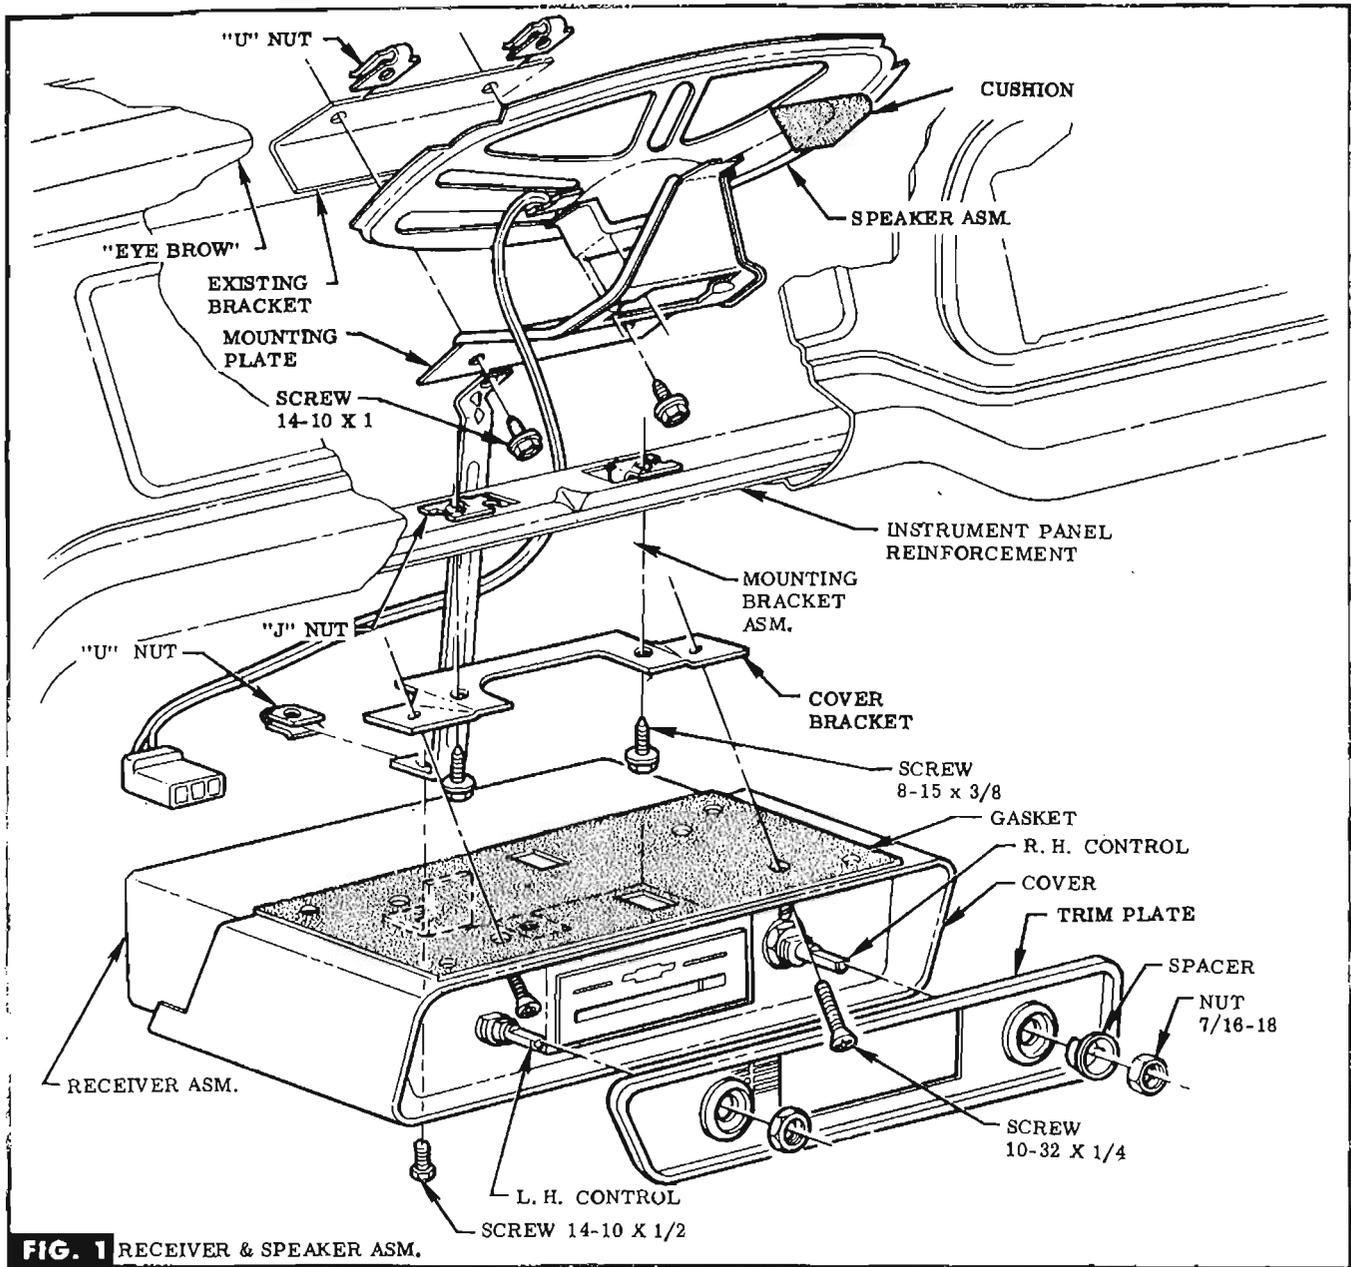

FIG. 1 RECEIVER & SPEAKER ASM.
STEP 1 PUSH CUSHION ONTO TANG OF MOUNTING PLATE. DROP MAGNET END OF SPEAKER THRU HOLE IN MOUNTING PLATE & POSITION MOUNTING PLATE CAREFULLY UNDER INSTRUMENT PANEL, NESTING CUSHIONED END OF PLATE INTO PANEL "EYE BROW". SEE FIG. 1.
PANEL & ATTACH FORWARD END OF MOUNTING PLATE & MOUNTING BRACKET TO EXISTING BRACKET ON DASH PANEL WITH "U" NUTS & SCREWS. SEE FIG. 1.
STEP 3 ATTACH COVER BRACKET TO INSTRUMENT PANEL REINFORCEMENT WITH "J" NUTS & SCREWS. SEE FIG. 1.
STEP 4 SLIDE RECEIVER INTO COVER. PLACE TRIM PLATE ONTO CONTROL SHAFTS. INSTALL SPACER ON R. H. CONTROL SHAFT WITH LARGE CUT OUT POSITIONED DIRECTLY IN FRONT OF ANTENNA TRIMMER SCREW. SECURE COVER TRIM PLATE & SPACER TO RECEIVER WITH NUTS. SEE FIG. 1.
STEP 5 PLACE "U" NUT ON LEG OF MOUNTING BRACKET. POSITION GASKET ON COVER. ATTACH COVER TO COVER BRACKET WITH SCREWS. ATTACH MOUNTING BRACKET TO RECEIVER WITH SCREW. SEE FIG. 1.